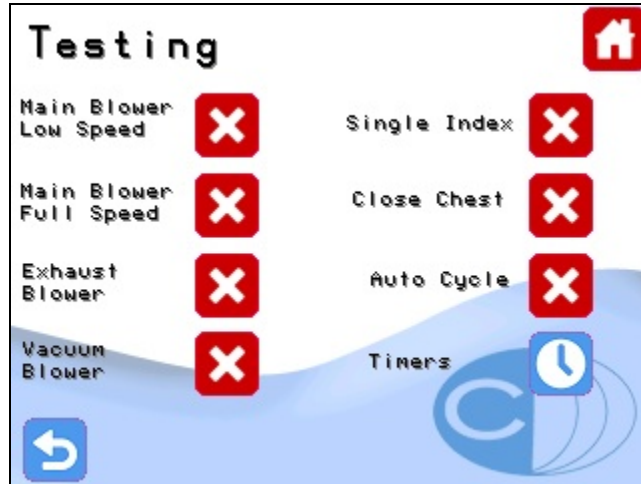

Figure 13 - Testline Screen
- Once the press is fully started, navigate to the “Testline” screen on the touch screen. Press the “Main Blower” power “On/Off” (Figure 13). To enter the “Testline” screen, the user name and password are 4505.